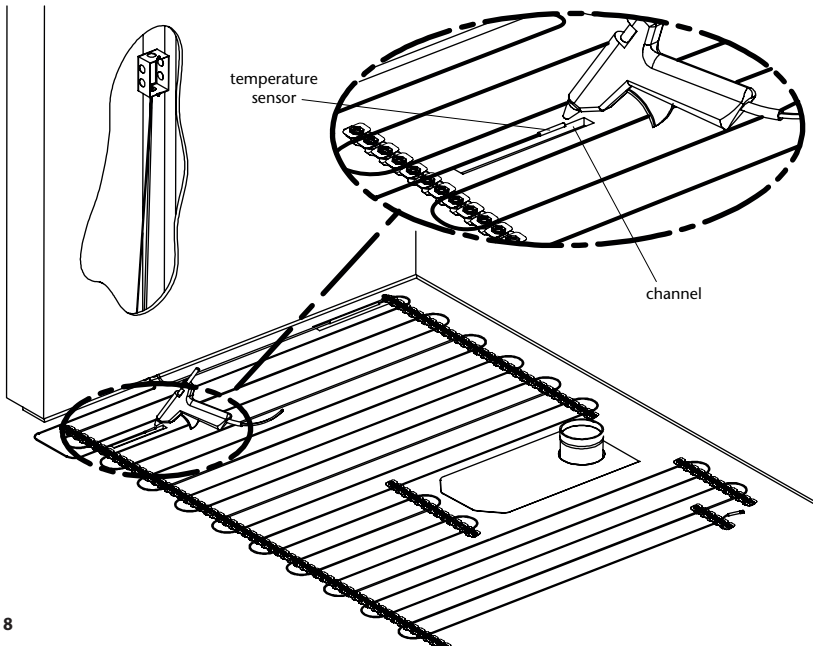

Figure 8
- Glue the sensor to the subfloor (figure 8). The sensor must be solidly fastened to the subfloor to ensure it stays in place when the cement or an equivalent binder (cement glue, ceramic glue, self-levelling cement) is applied.